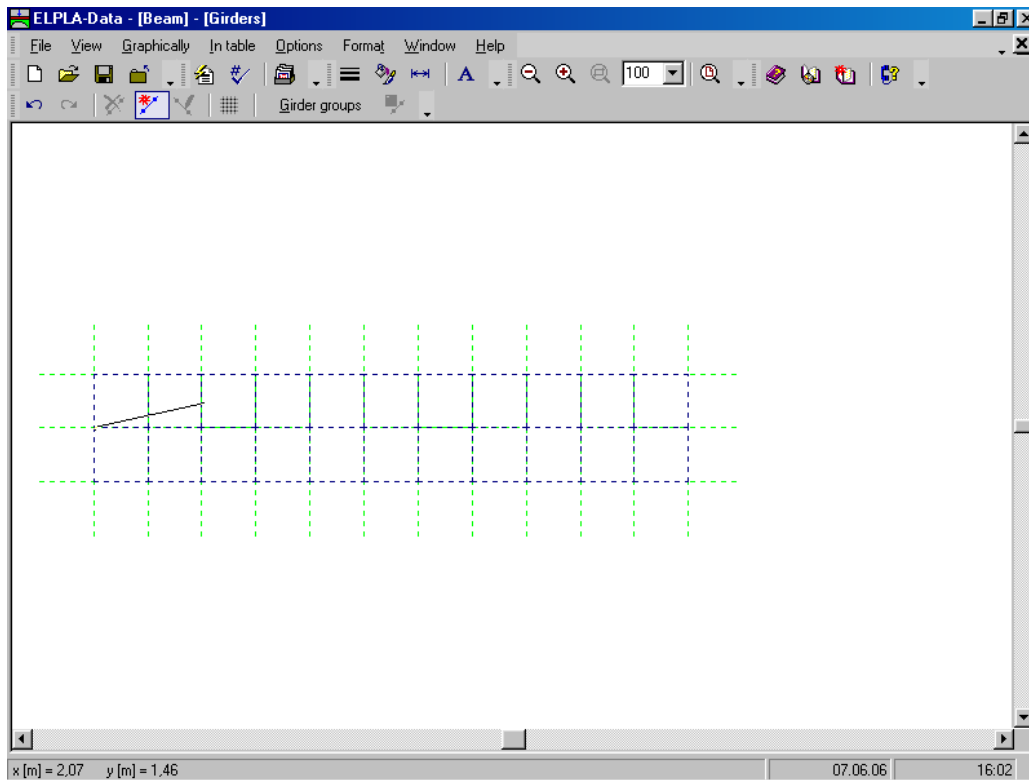
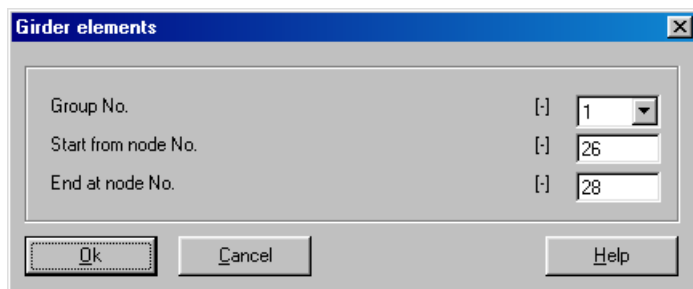

Figure 8-14 Add girder by mouse
Figure 8-15 "Girder elements" dialog box
- Choose "Add girders" command from the "Graphically" menu in Figure 8-14. When "Add girders" command is chosen, the cursor will change from an arrow to a cross hair
- Click the left mouse button on the start node of the first girder and drag the mouse until the end node of that girder (Figure 8-14). Then, click on the end node. The "Girder elements" dialog box in Figure 8-15 appears